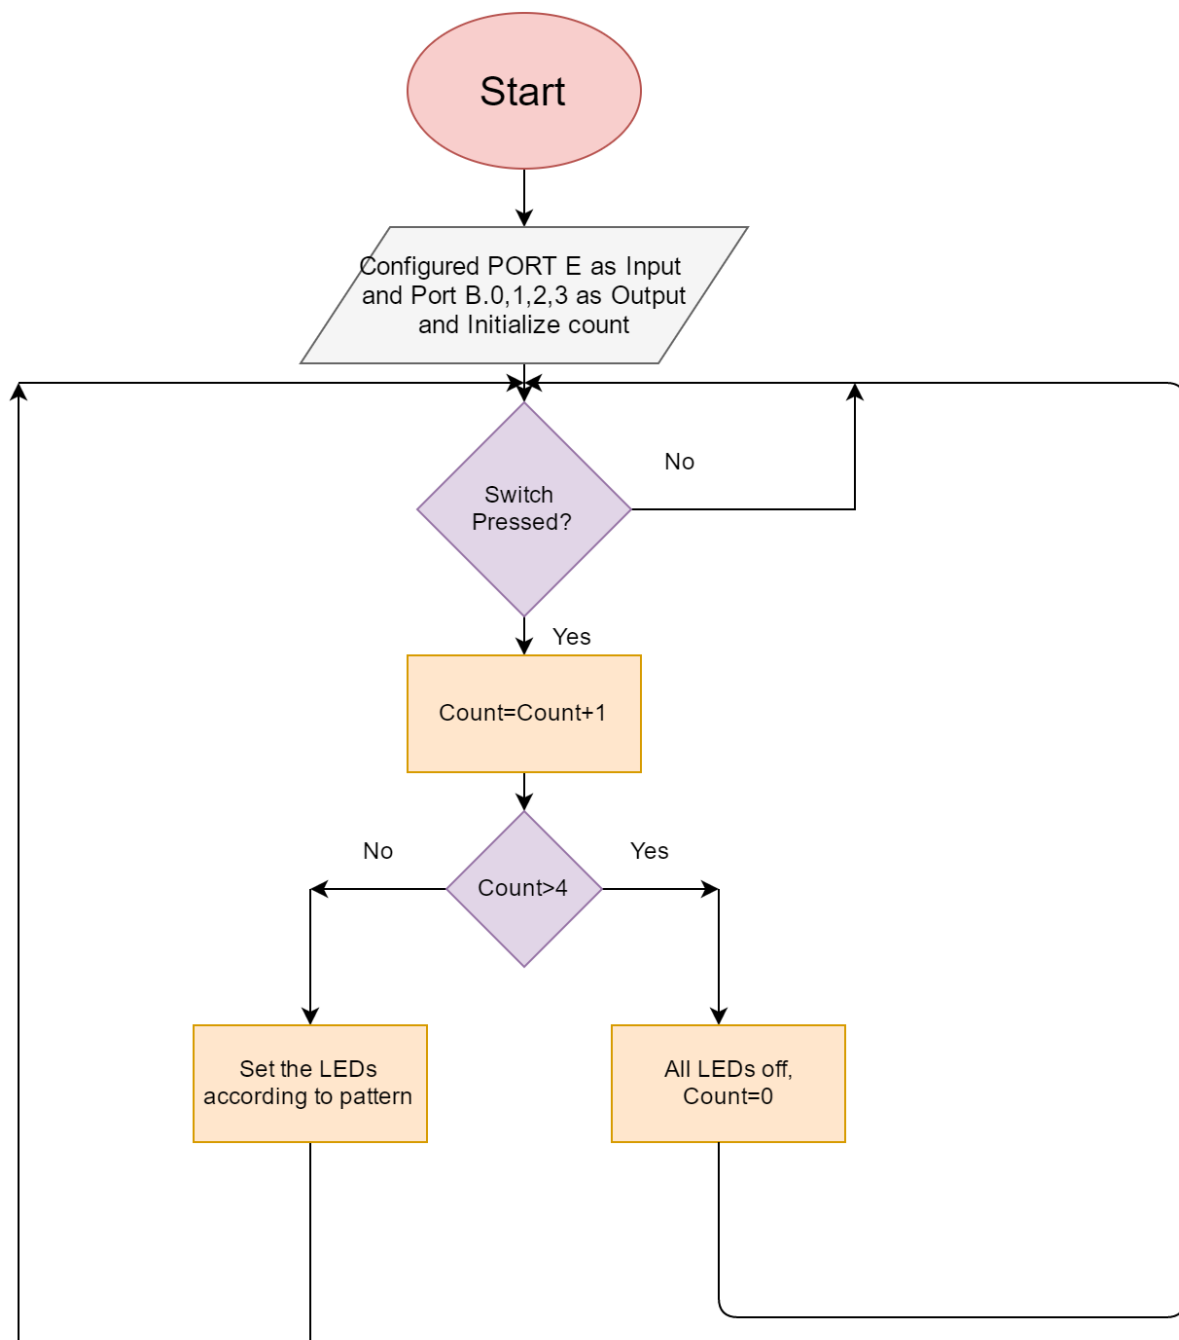

Figure 1 Flow chart for the procedure followed to make LEDs glow in a desired pattern
- As shown in Figure 1, Since LEDs are connected to PORT B (0) – B (3) we must declare it as an output port, which is done using DDR register. All bits of GPIOB -> DDR from 0 to 3 are made 1 which tells that these pins will be used as output.